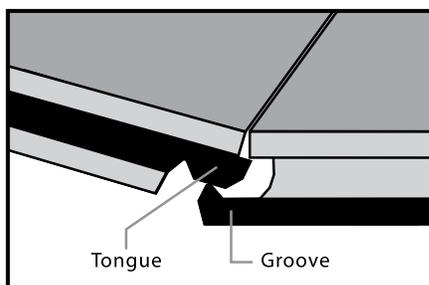

Fig. 1
- Attach the end joints of the planks in the first row by inserting the tongue into the groove while holding the plank at a 10° to 15° angle to the floor. Apply light pressure inward and down until the planks lock together (Fig. 1).